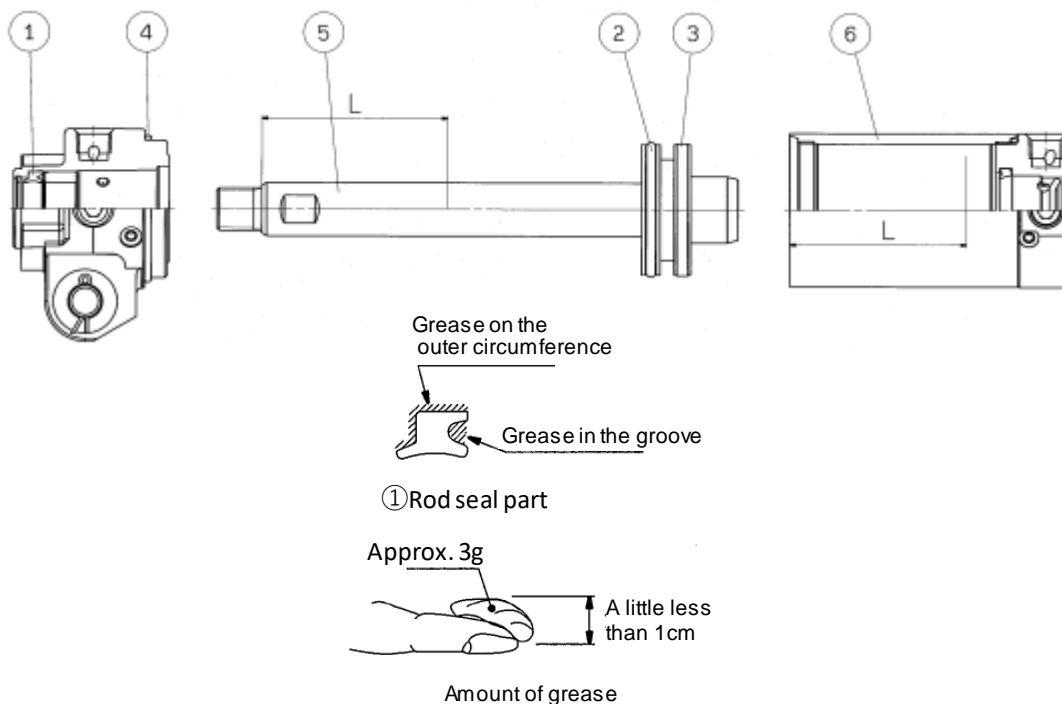

Fig. 5 Position for application of grease
Grease is applied to the locations shown in Fig.5. The amount of grease per cylinder of 100 stroke is shown in attached table 1. Roughly, one scoop with a forefinger is approximately 3g.
1) Rod seal (Fig. 5, ①)
2) Piston seal (Fig. 5, ②)
3) Tube gasket (Fig. 5, ④)